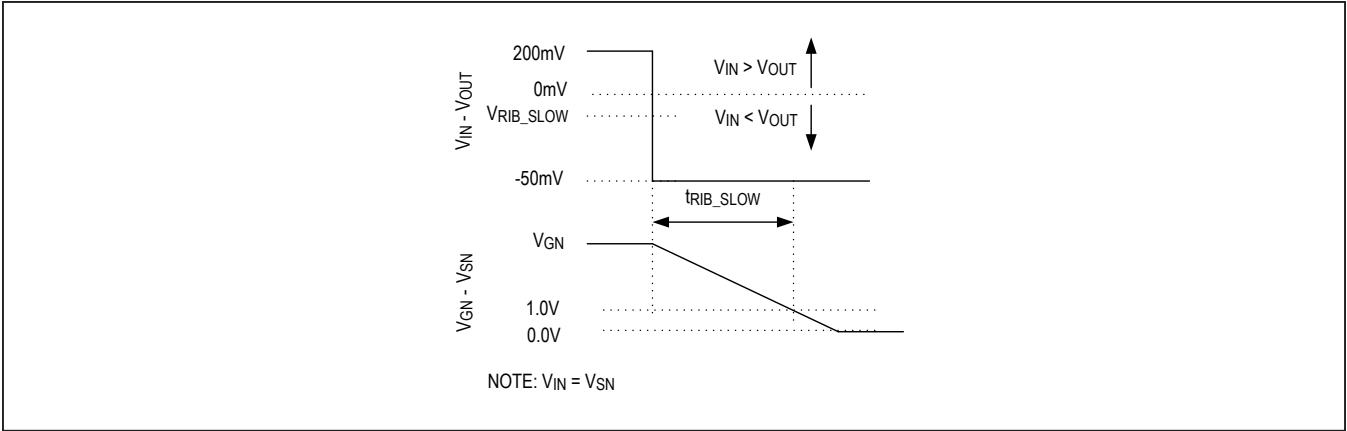

Figure 1. Slow Reverse-Current-Blocking Response Time
**Note 4:** Time from  $V_{IN} - V_{OUT}$  voltage transition from 200mV to -50mV until GN pin voltage falls to  $V_{SN} + 1V$  (Figure 1).